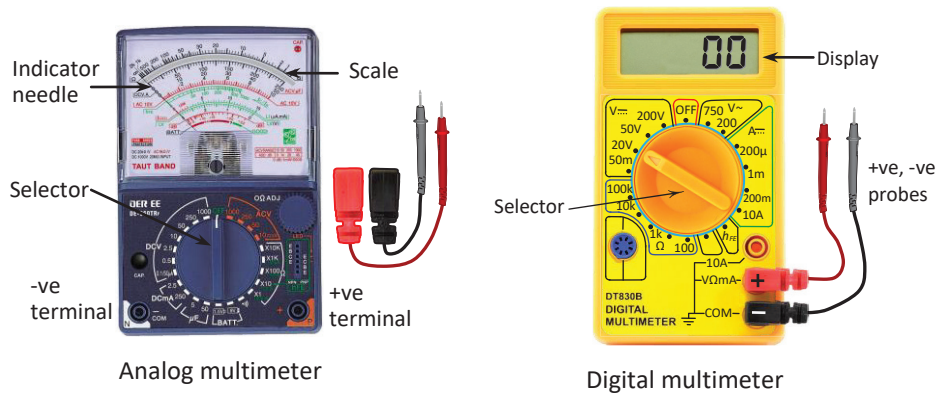

Fig.1-19: Analog and digital multimeters
purpose in servicing electrical and electronic circuits. There are mainly two types of multimeters: (1) **Analog multimeter**, and (2) **Digital multimeter**. The photographs of an analog and a digital multimeter are shown in Fig.1-19.